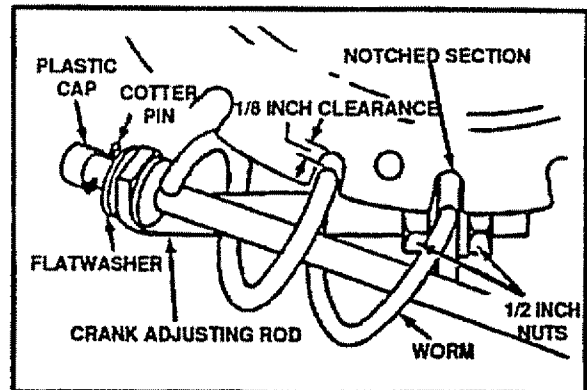

FIG. 5
- Remove the plastic cap, the cotter pin and the washer from the wormed end of the crank assembly and set aside (See Fig. 5).
- Install the wormed end of the crank through the hole in the adjusting rod and secure the end with the flat washer and cotter pin, as shown in Fig. 5.
- Rotate the chute crank fully clockwise and fully counter-clockwise. The discharge chute should rotate fully with approximately 1/8 inch clearance between the worm and the bottom of the notch (See Fig. 5).